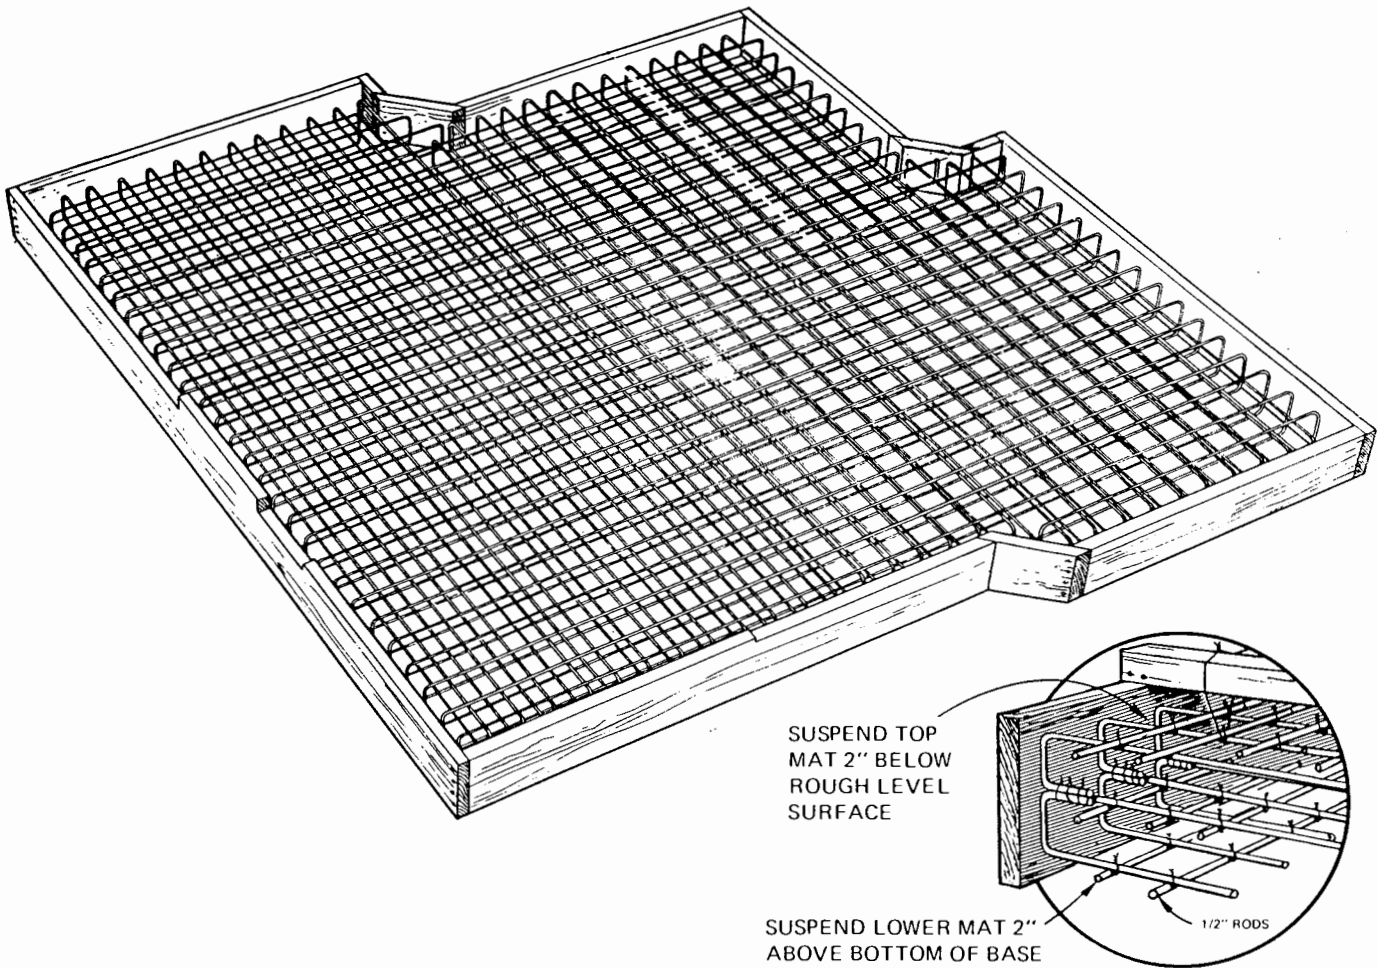
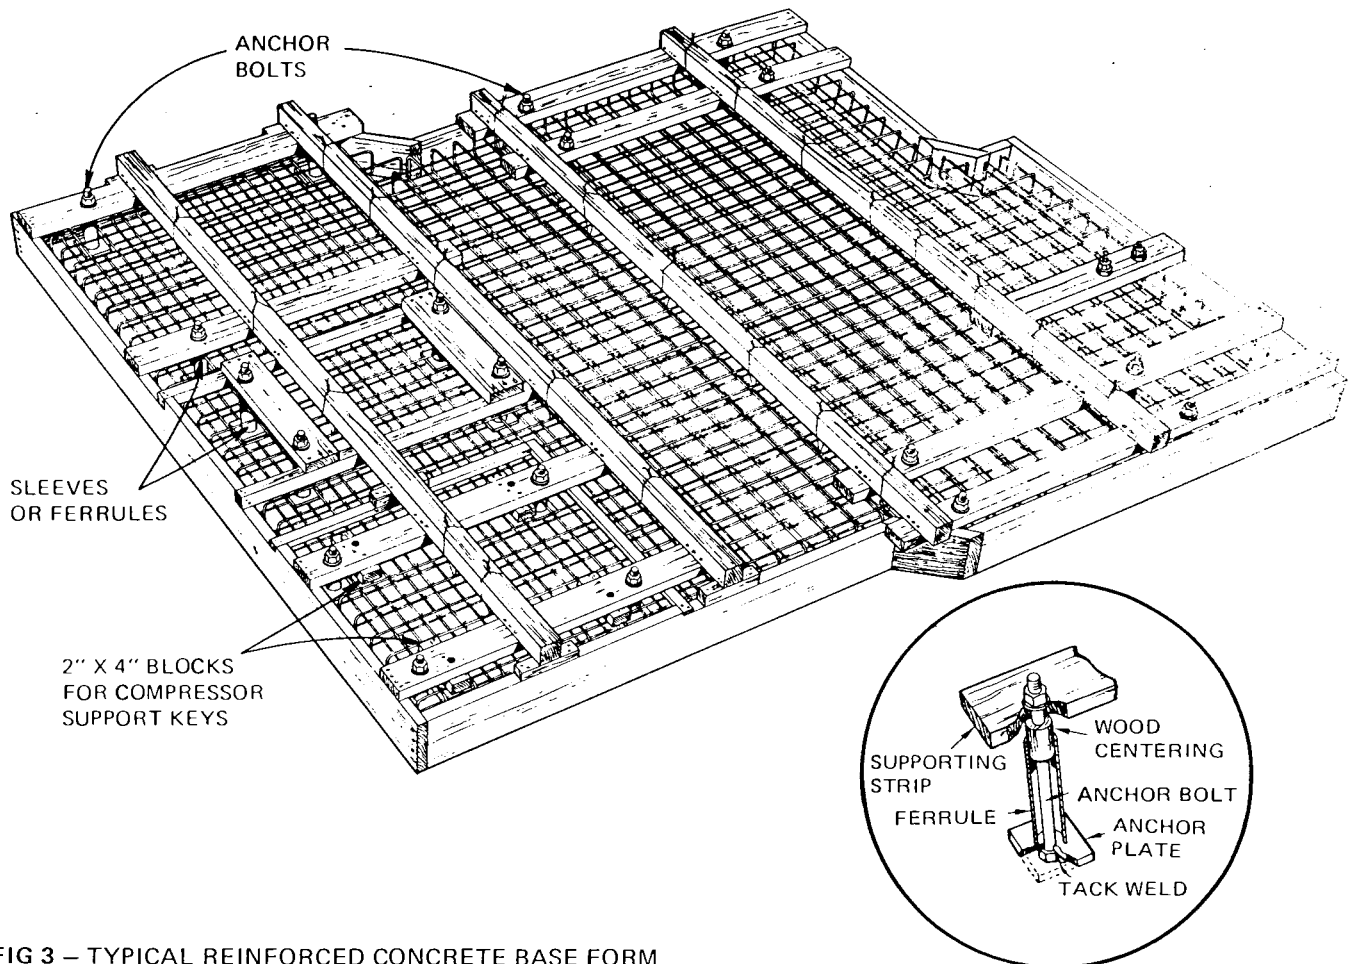

FIG 2 – TYPICAL STEEL REINFORCING ROD ARRANGEMENT (Design By Others)
FIG 3 – TYPICAL REINFORCED CONCRETE BASE FORM
2. Build and set the wooden form required to pour the concrete base in accordance with the certified drawings. The inside length and width of the form should be the same as the outside length and width of the finished base. The height of the form should extend up to the grout line. Fig. 2 shows a typical form for a reinforced concrete base.
3. Make up and suspend mats of reinforced rods in accordance with the certified drawings. The rods are to be spaced 6" apart and at right angles to each other. The ends of the lower mat are to be turned up and back to join the top mat per Fig. 2 detail, the rods must be wired together at each crossing and joint to prevent them from moving when the concrete is poured. Refer to Fig. 3 position the reinforcing rod mats as indicated on the
4. Refer to Fig. 3, attach a 2" x 4" block to each end of the strips which support the anchor bolts for the compressor. These blocks should be located under the compressor foot bolt locations to provide cavities in the concrete base for the angles which are welded to the bottom of the compressor supports. The blocks for these cavities should extend 2" beyond the width of the compressor supports, on each side, so that the supports do not cover the entire cavity. This provides an open hole at each side of the compressor supports through which to pour grout around the angles after the compressor is properly located on the rough level of the concrete base.
5. Make up the required number of properly sized sleeves, or ferrules, and accurately locate and suspend the anchor bolts in accordance with the certified drawings. The supporting strips for the anchor bolts should be fastened across the top of the wooden form as shown by Fig. 3. After the anchor bolts are suspended, recheck their locations with the certified drawings. Check all dimensions
NOTE: The ferrules should be sized and located so that the top of each ferrule is flush with, or slightly above, the surface of the rough level so that concrete does not enter the ferrules. The ferrules must be blocked with a wooden centering plug so that the anchor bolts are centered within the ferrule when the concrete is poured. (See Fig. 3, Detail). This permits some movement of the anchor bolts for final alignment. After final alignment has been obtained, the grout should flow into the ferrules and lock the anchor bolts in position.